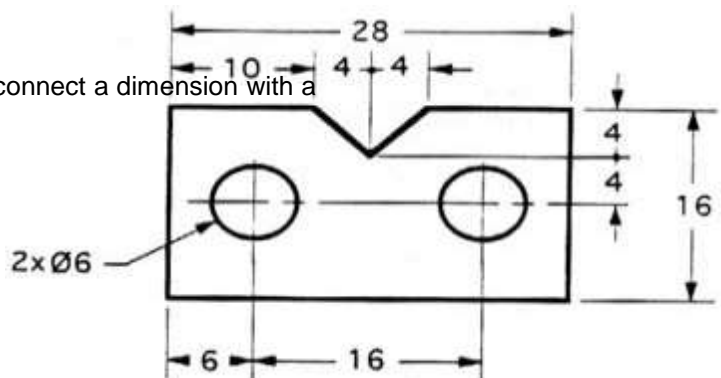

Figure 8.2 Example drawing with a leader
- ◆ A leader is a thin line used to connect a dimension with a particular area (figure 8.2).